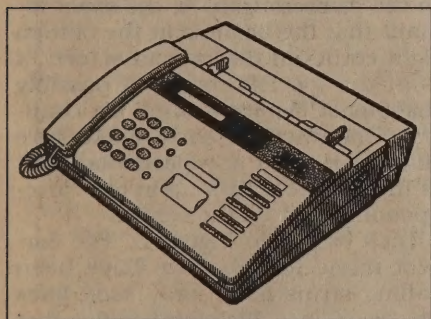

Figure 1. A typical fax machine.
Today's fax machine can send letters, pictures, cartoons, photos, and almost anything that you can feed through its slot. Shown in Figure 1, the typical machine consists of five parts: (1) a scanner that can scan a printed page and convert it into an electrical signal; (2) a printer that can take such an electrical signal and print it on paper; (3) a telephone and dial by which to call other machines; (4) a modem that couples the digital circuitry to the telephone line; and (5) a microprocessor